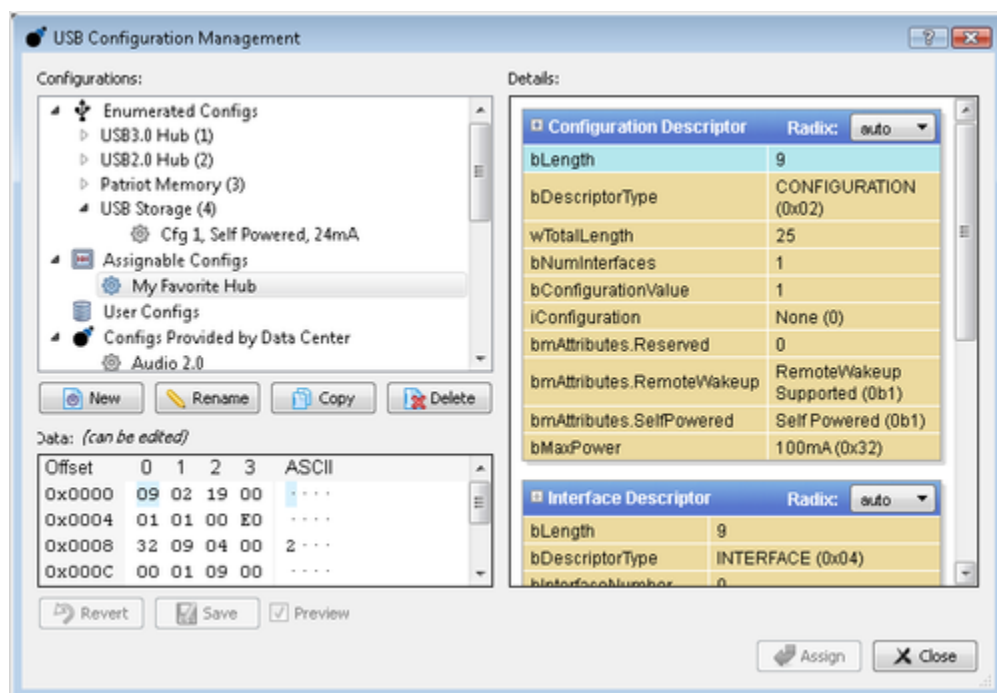

Figure 83 : USB Configuration Management Window
These functions are provided through the **Configuration Management Window** (Figure 83) and the **Bus Pane's** right-click context menu (Figure 84) through which the window is accessed.
2. Click **Manage Configs** to open the **Configuration Management Window** (Figure 83).
2. Click **Manage Configs**. This will open the **Configuration Management Window** (Figure 83).